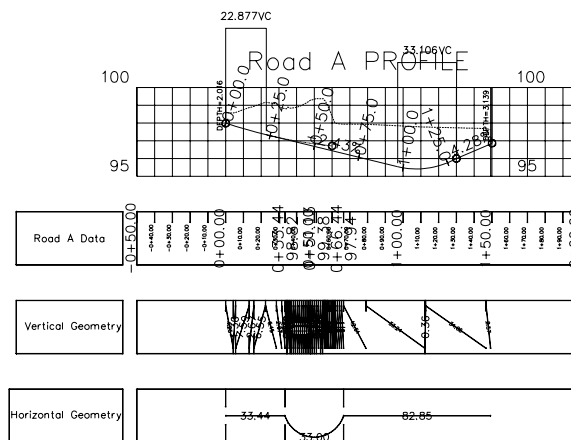

Figure 6-77 The **Road A** profile view with the specified data bands added
6. Choose the **Apply** button to assign the **Road A** band set styles to the profile and then choose **OK** to close the dialog box. The specified bands are added to the drawing with the selected band styles, as shown in Figure 6-77.